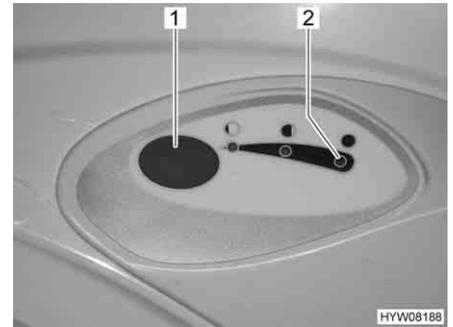

Fig. 191 Flush button/indicator lamp Thetford toilet
- For flushing, press the blue flush button (Fig. 191,1).
The indicator lamp (Fig. 191,2) lights up whenever the sewage tank has to be emptied.